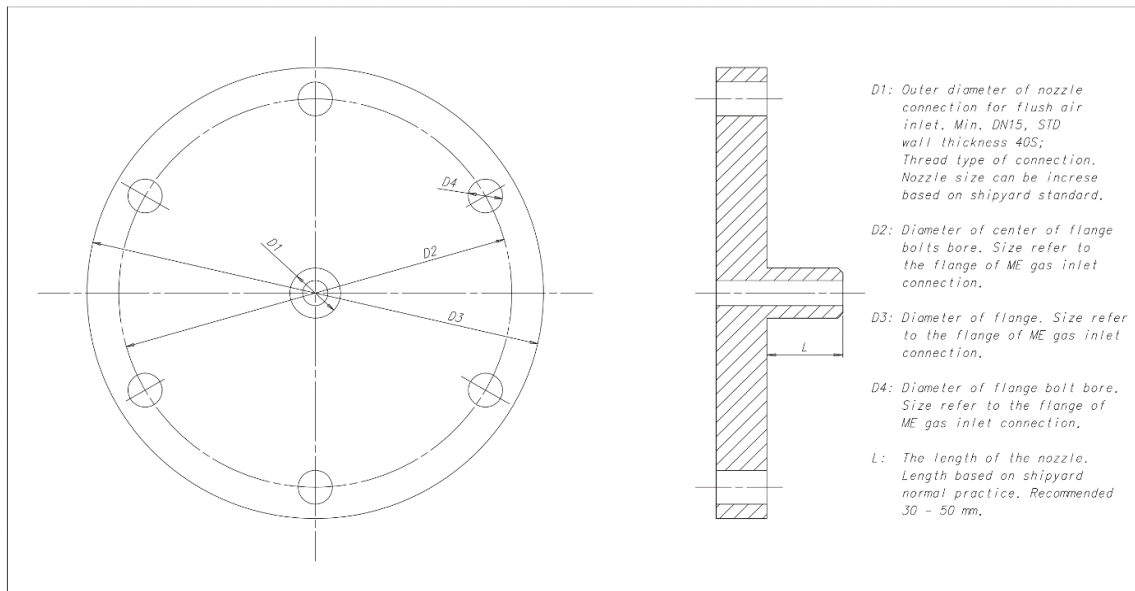

Figure 1: Flushing flange with nozzle connection for double wall pipe
- Type 2: Flushing flange – It is a specially designed flange used for connecting the flushing air to the inner pipe of the double wall pipe. Figure 1 details the flushing flange with a flushing air nozzle connection to the inner pipe.
1. Combine the gas pipe flange at ME connection with the flushing flange (type 2) as shown in Figure 1.